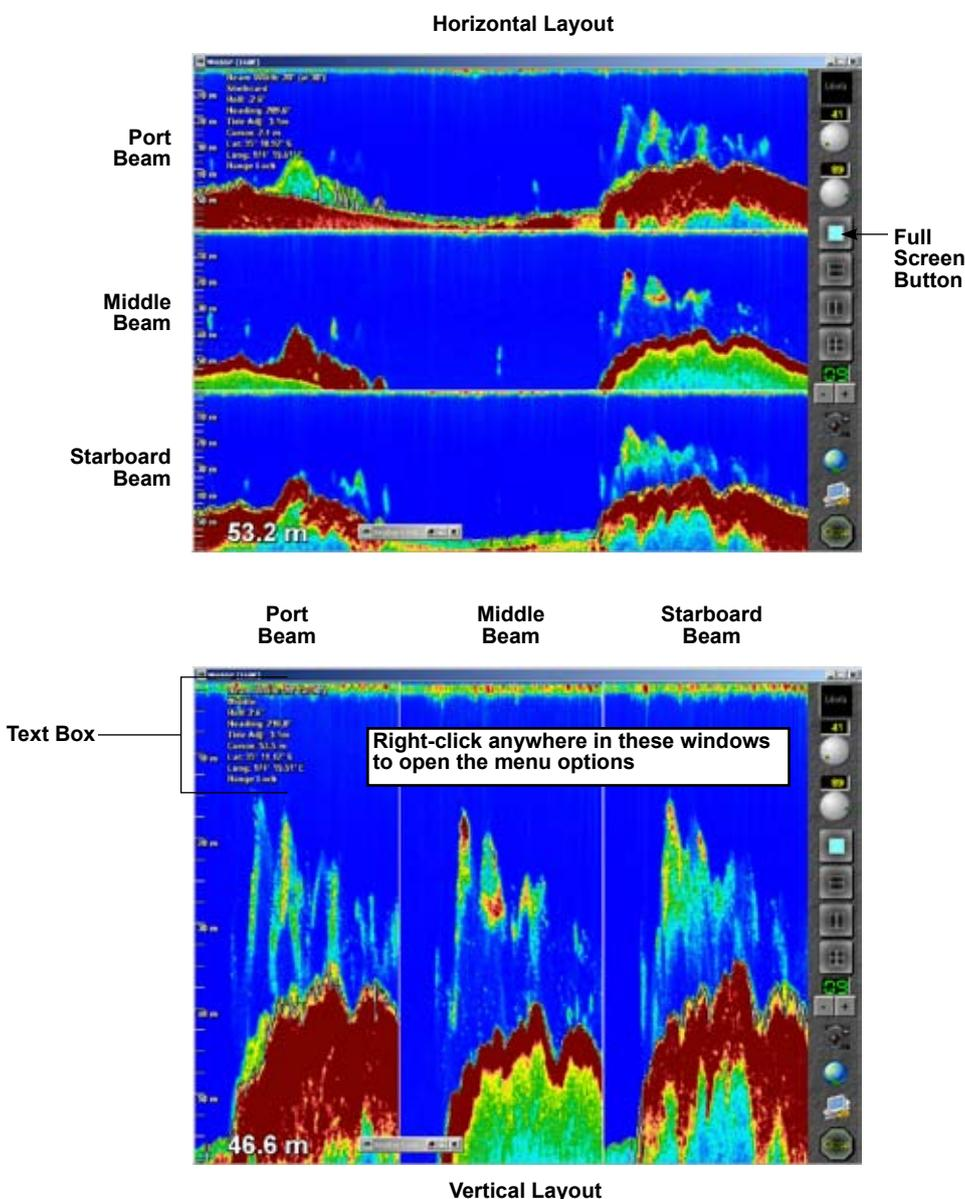

Figure 12 – Single / Triple Beam View
- **Beam Width** – represents the width of the individual beams and can also be set to 5, 10, 15, 20, 30, or 40° settings. Selecting a 10° beam width with a 20° **triple beam** angle will therefore give a 50° swath for the **triple beam** view. See Figure 12.
Figure 12 shows the differences between beam angle and beam width.